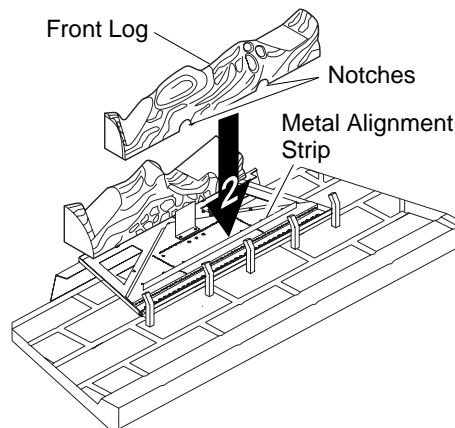

Figure 21 - Installing Front Log
2. Align the groove cut into the bottom of the front log over the metal strip on the burner. Make sure the metal strip is completely in the groove. Also make sure the notches in the bottom of the log align over the burner holes as shown in Figure 21.